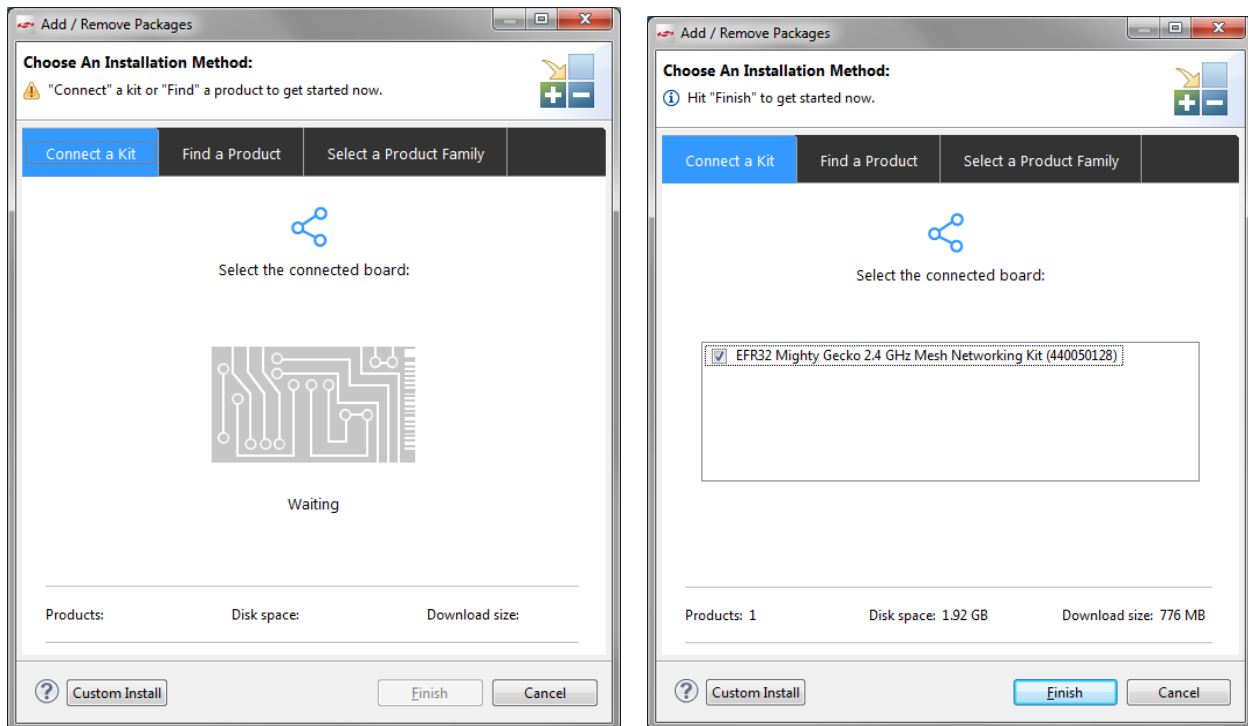

Figure 3. Connect a Kit Before and After Connection
2. Once software update is complete, Simplicity Studio checks for connected hardware. If you have not connected your WSTK, you are prompted to do so (Figure 3). Connect your hardware and, when the screen changes to show that the hardware has been found, click [Finish].